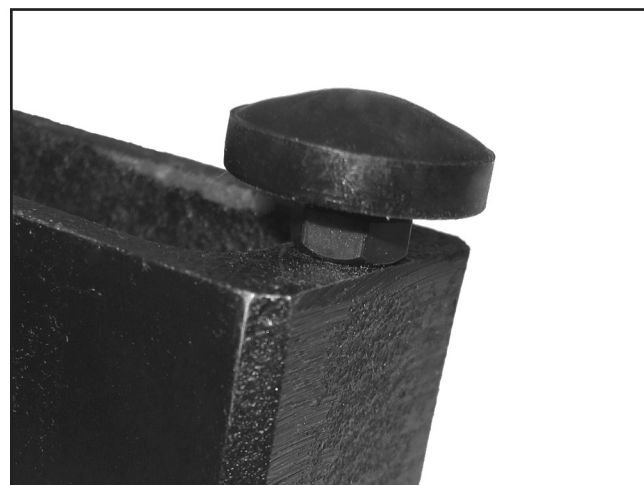

Figure 24. Installed rail pad.
4. Thread the M6-1 hex nut onto the rail pad, then thread the rail pad into the fence (see **Figure 24**).